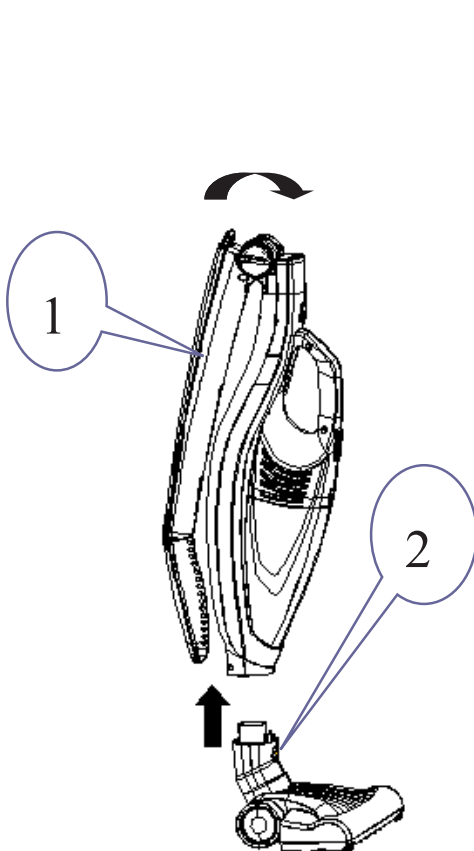
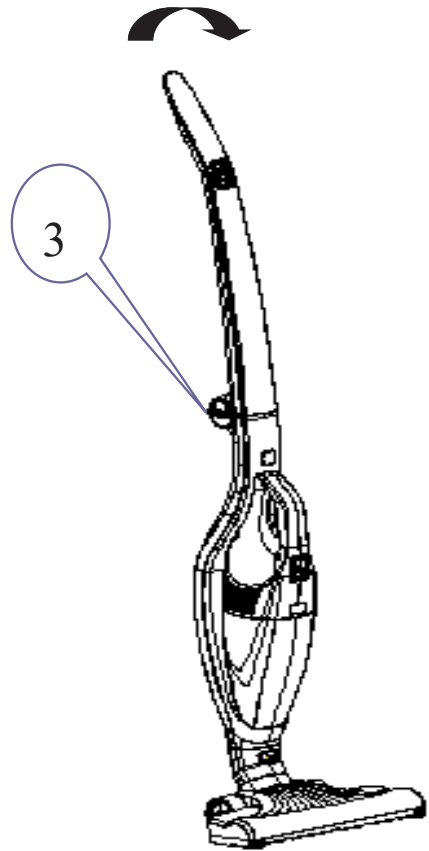

Fig. 2
Fig. 3
Insert the floor brush into the body by following the arrow shown in Fig. 2, when the release button (2) locks the body, rotate the handle (1) and make it be inserted into the body. If need to fold the handle, rotate the handle release button (3) (see Fig. 3).